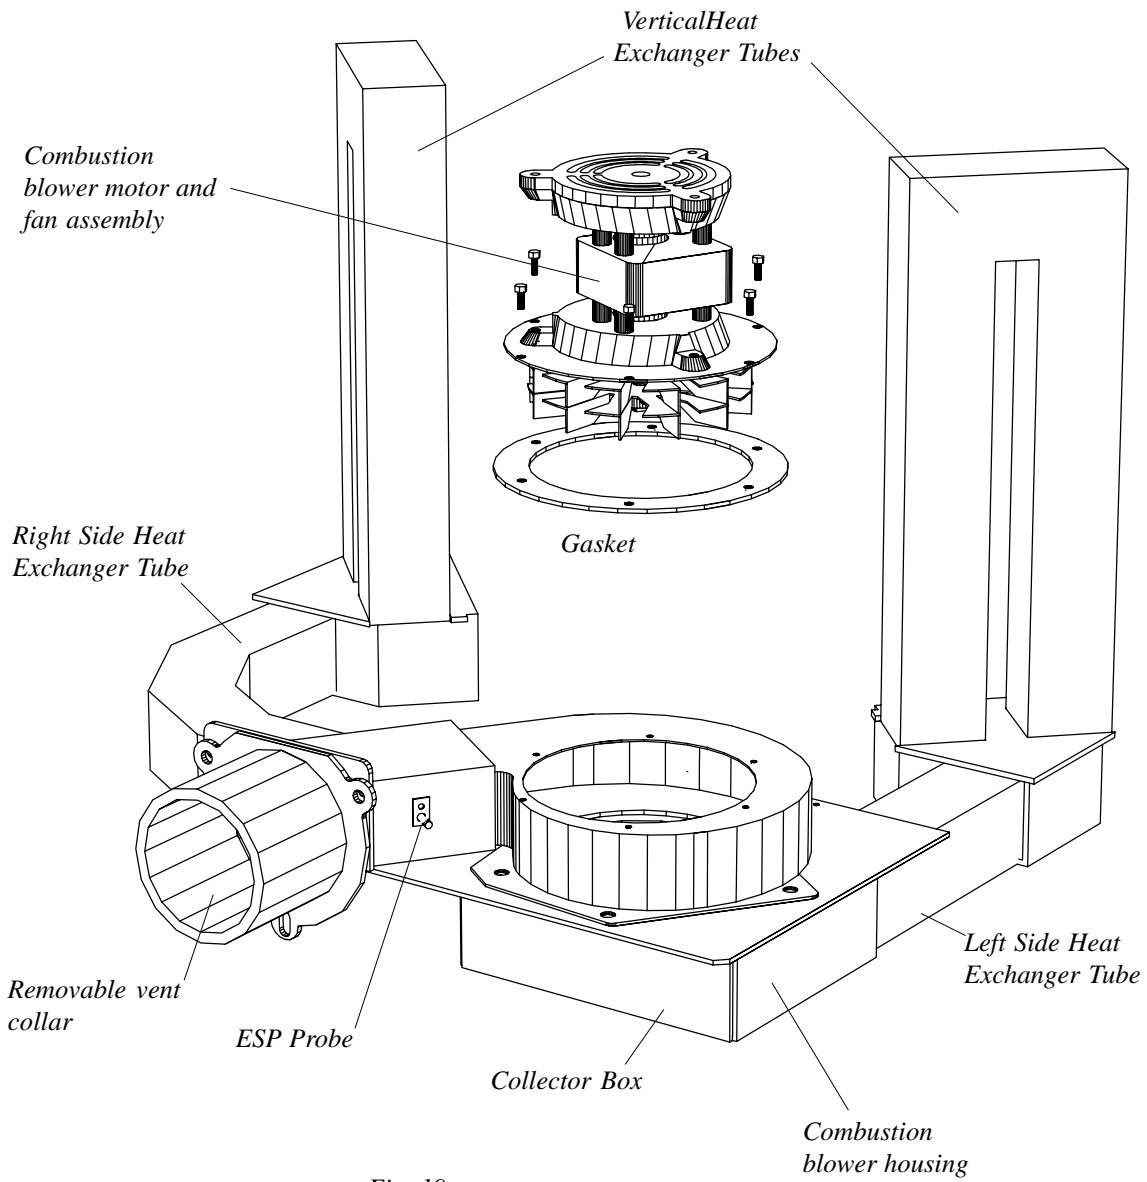

Fig. 19
* Clean ESP probe. This can be done by removing the probe and cleaning it with a rag or brush fig. 19.